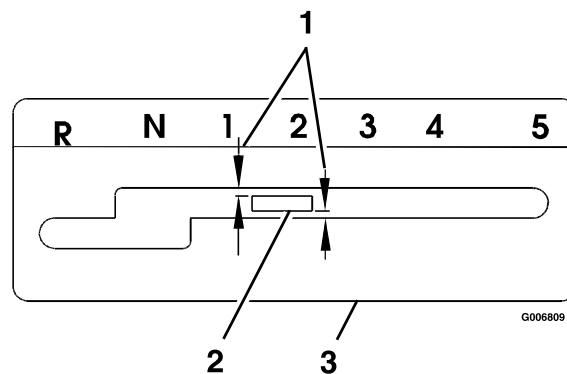

Figure 6
2. Shift the lever to second gear and check the alignment of the lever in the slot of the shifter plate. Clearance between the top of the lever and the top of the slot should be about equal to the clearance between bottom of the lever and the bottom of the slot (Figure 6). If it is not, remove the lever and bend it slightly to adjust. **DO NOT** bend the lever while it is attached to the transmission. Reinstall the lever and tighten the hardware.